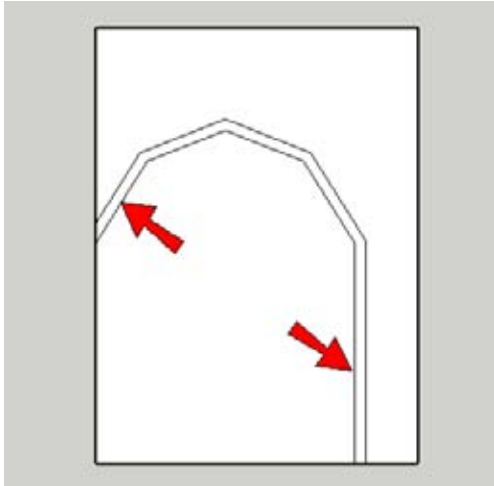

Figure 7-47
7. The innermost face you have now, indicated by the arrows in Figure 7-47, is the boundary you want for the cutting face, because this is where the cutting face meets the exterior edges of the brown frame. Erase everything *except* for the edges of this face.